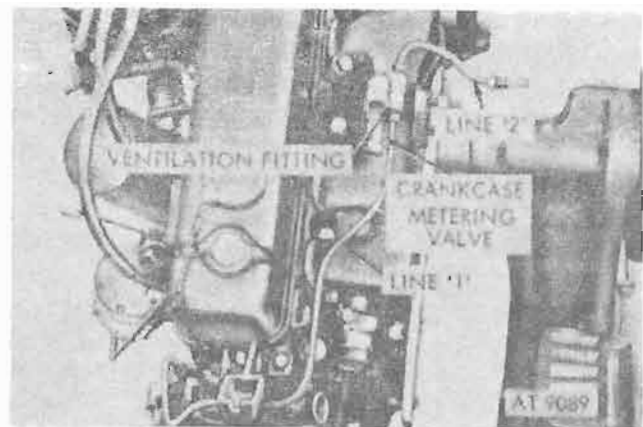

Figure 4-284. Crankcase metering valve and ventilation lines and fitting (M151, M151A1, M151A1C, and M718A1 vehicles).
a. *Install Crankcase Ventilation Valve and Fitting.* Install fitting in center tapped hole provided in top of intake manifold and crankcase ventilating valve in tapped hole provided in fitting. Ventilation fitting should be tightened so that tapped hole for crankcase metering valve is toward front of engine. Use oil-and-water-resistant sealer on all connections (figs. 4-284 and 4-285).
The key numbers shown in parentheses refer to figures 4-284 and 4-285.